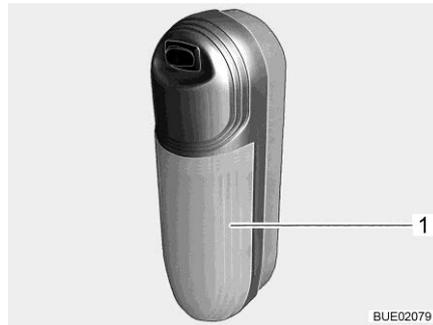

Fig. 167 Surface mounted light
- Pull transparent cover (Fig. 167,1) slightly away from switch and remove it.